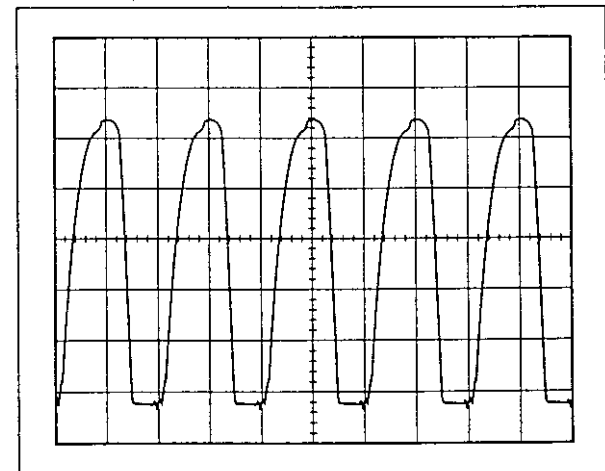

Figure 11. IR link, 3 kHz square wave to **Clock In**.
2. Check that the waveform is approximately as in figure 11. Amplitude > 2,5 Vp-p.